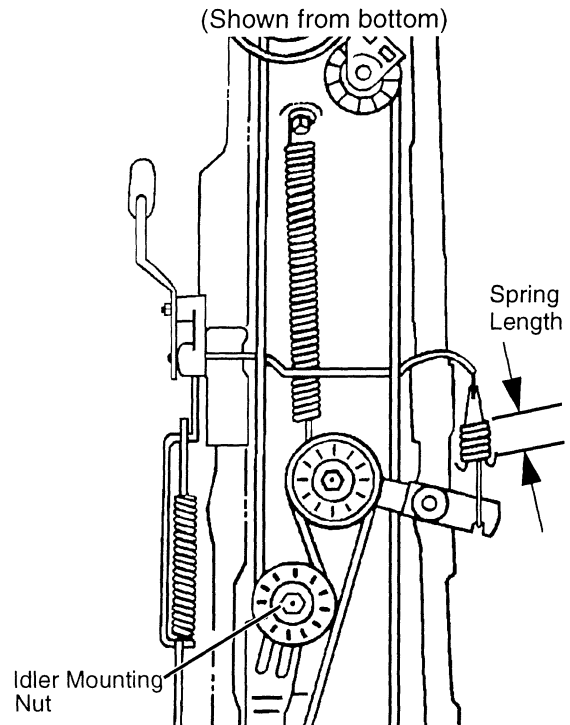

FIG. 39
- Measure clutch actuating spring length. (See Fig. 39) Measurement should be **1.65–1.77 in. (42–45 mm)**. Clutch actuating spring length is adjusted by sliding rear idler sheave on its slotted mounting bracket, as follows: